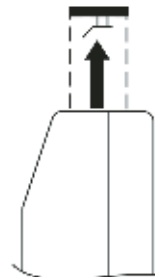

Figure 7a
5. Replace the top grill removed in previous step 2 by pressing it into position until it locks. The aluminum reflector must be positioned over the UV-C lamp, nearest the front of the unit (figure 7a).